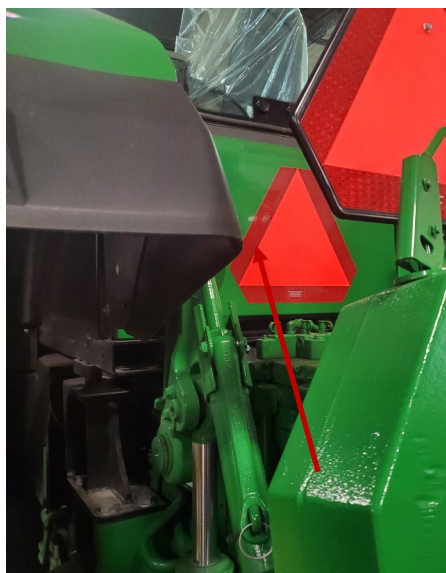

Figure 7-42:
3. Plug the harnesses into the back of the tractor. On 8R series tractors the connector is behind the cover on the back side of the cab. See Figure 7-42—7-44. It is a 10 pin rectangular connector and usually has a white cap for storage.